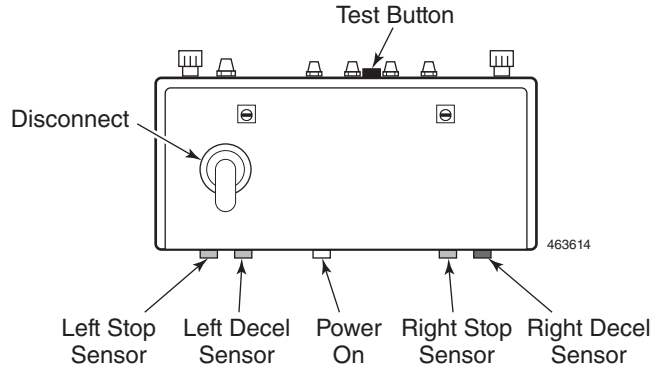

Figure 34
- Check the Control Panel; if the Close Stop Sensor red light is ON, the Stop Sensor has been reached and the Door has stopped too soon. Move the Sensor Bracket toward the motor and re-test. See *Figure 34*.